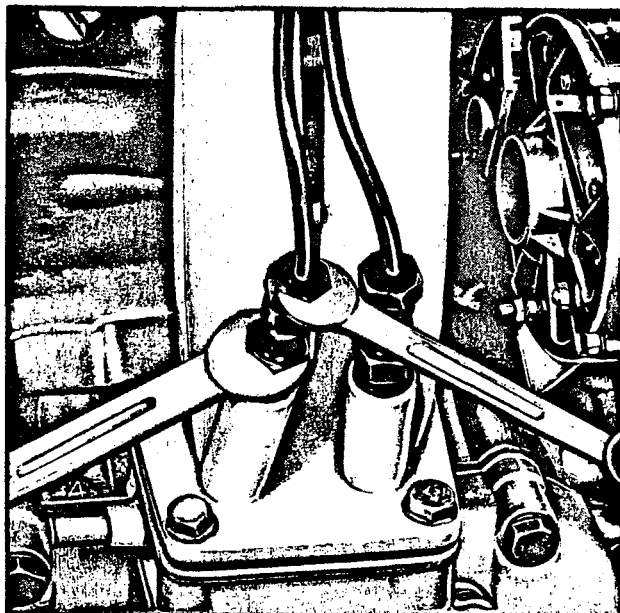

Fig. 6 - Removing the Injector
- Unscrew the union securing the fuel delivery pipe to the injector to be examined, holding the injector connection with another spanner, then displace the pipe by the required amount (see fig. 6).